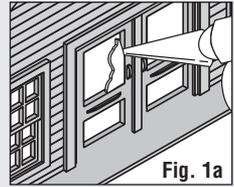

Fig. 1a
- Remove mold flash from Wall and Roof Sections and Details using a hobby knife and sandpaper (**Fig. 1a**). Make sure grooves in Wall and Roof Sections are free of mold debris. Do not remove Details from sprues at this time.